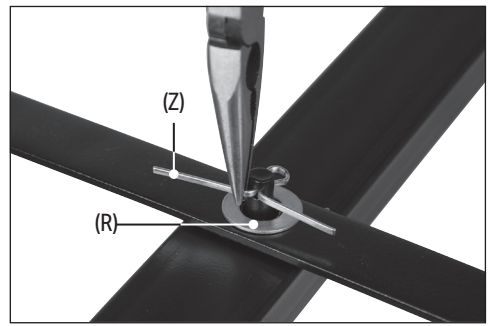

Fig. 6
- Place 1 x M12 washer (R) over the front arm pin and secure it in place using the split pin (Z). (Fig. 6).